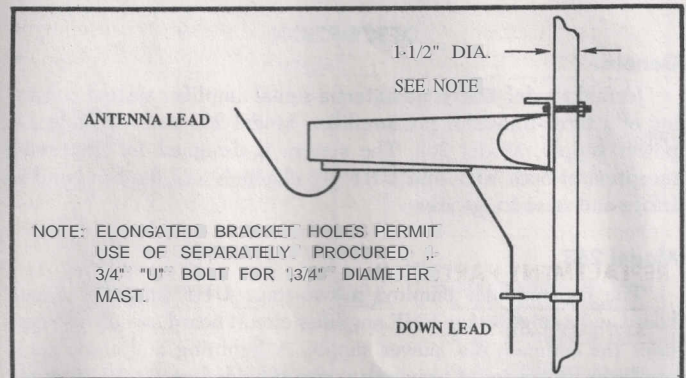

FIGURE 3 MODEL 4283 MOUNTED ON ANTENNA MAST
1. Assemble the rear bracket of the Model 283 to the antenna mast as shown in Figure 3, using the "U" bolt and self-locking hex-nuts supplied.